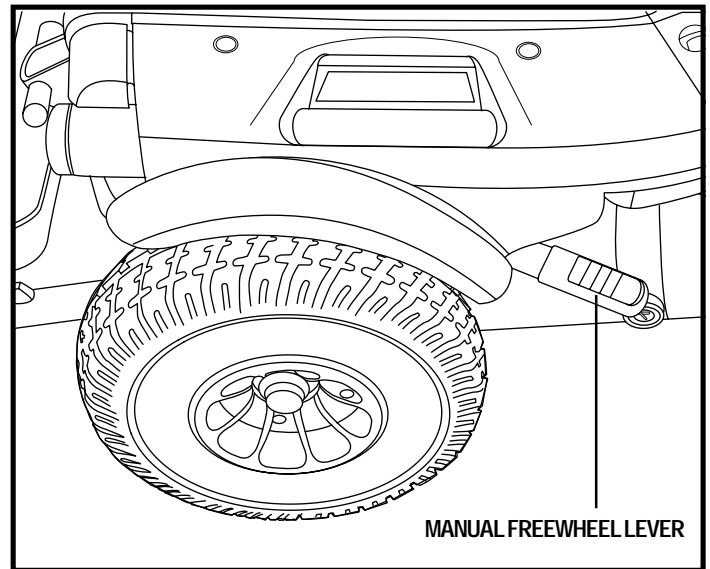

Figure 10. Freewheel Mode (Drive Disengaged)
3. Pull the two levers outward to disengage the drive motors. See figure 10.